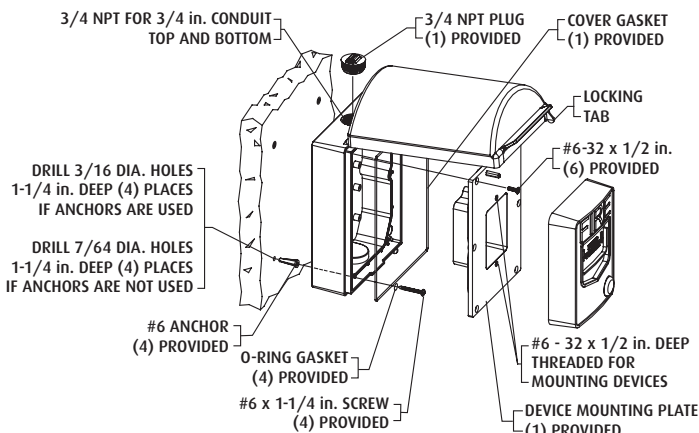

Fig. 2 - BACKBOX MOUNTING OPTION
3. Refer to Fig. 2, 3 and 4 for illustrations of the different mounting configurations (BACKBOX, FLUSH, SURFACE). For additional seal reliability, a silicone sealant may be applied between optional backplate and wall.